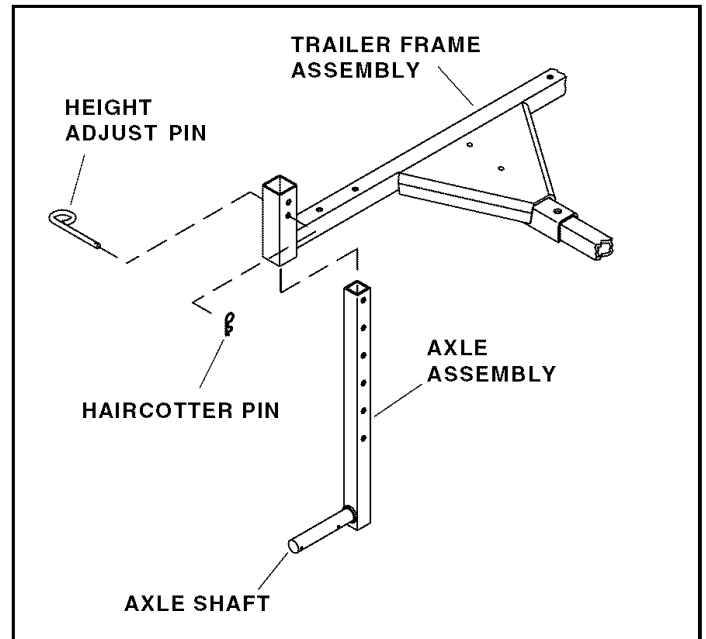

FIGURE 2
3. Slide an axle assembly up through one end of the trailer frame, with the shaft of the axle pointing **out**. Pin the axle to the frame using a height adjust pin and a haircotter pin. Repeat this step for the other axle assembly on the opposite end of the trailer. Be sure both axles are pinned at the same height. See figure 2.